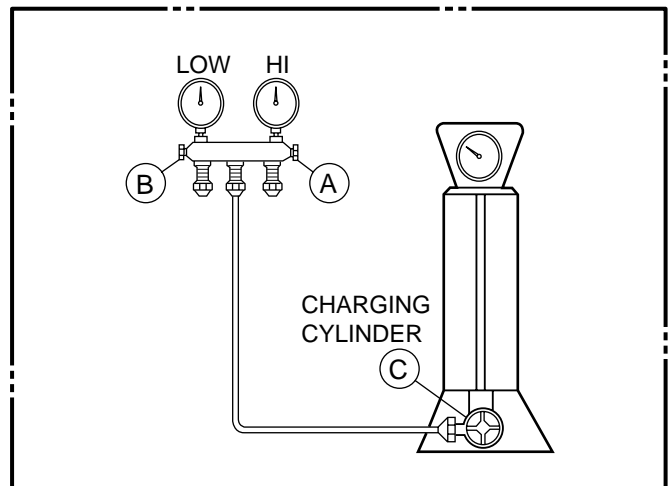

Figure 22B-Charging
- 2) Connect the charging cylinder as shown in Figure 22B. With valve C open, discharge the hose at the manifold connection.
- 4) Remove the hose from the vacuum pump and place it on the charging cylinder. See Figure 22B. Open valve C. Discharge the line at the manifold connection.